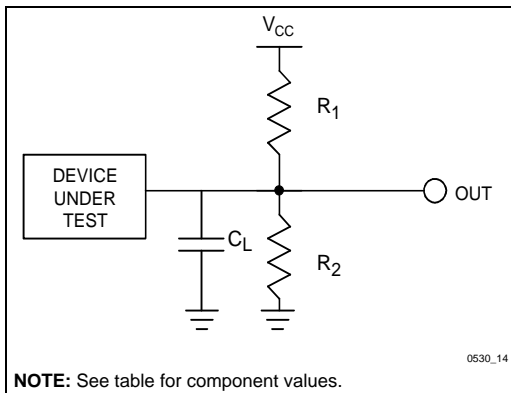

Figure 22. Test Configuration
5. See *Test Configuration* (Figure 22), 2.7 V–3.6 V and 3.3 ± 0.3 V Standard Test component values.
6. See *Test Configuration* (Figure 22), 5 V Standard Test component values.
9. See *Test Configuration* (Figure 22), 2.7 V–3.6 V and  $3.3 \pm 0.3$  V Standard Test component values.
10. See *Test Configuration* (Figure 22), 5 V Standard Test component values.